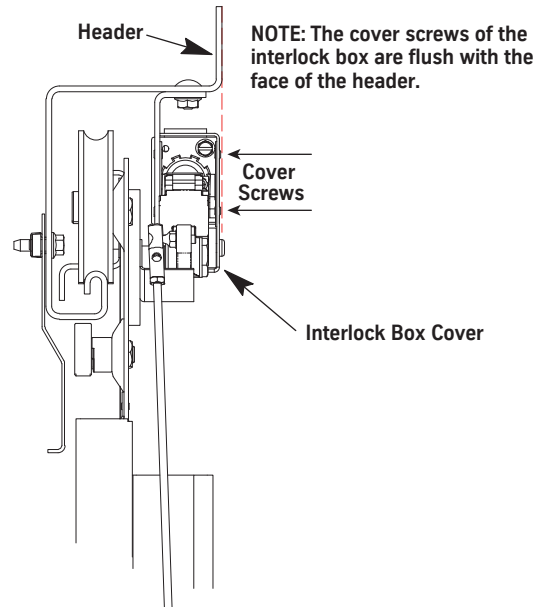

Figure 69 - Install the Door Interlock
1. Install the interlock contact box. Evenly align the cover screws with the face of the header. See Figure 69.